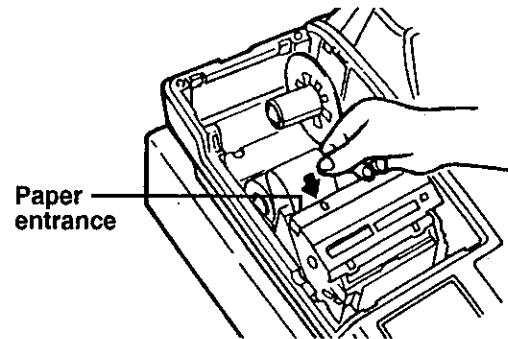

Fig.5
4. Insert the end of the paper into the paper entrance. (See Fig.5).